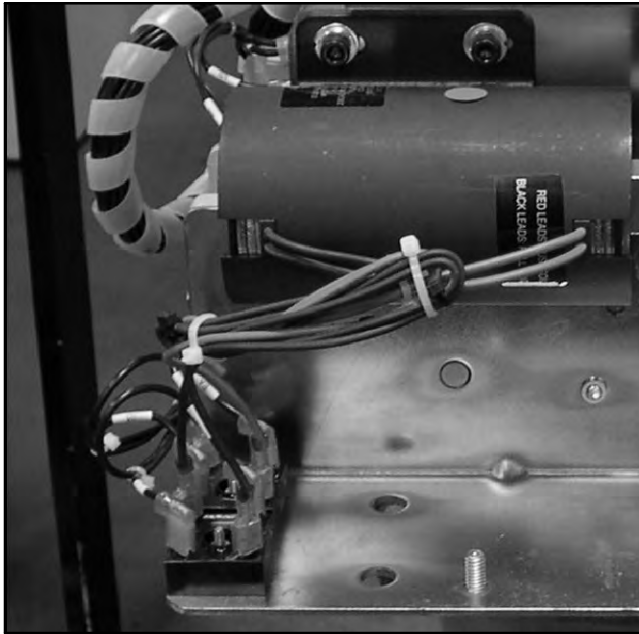

Figure 6-20 Rectifier Fast-On Connectors (contactor shown on the bench)
4. Remove the DC fast-on connections from the rectifier terminals. See Figure 6-20.